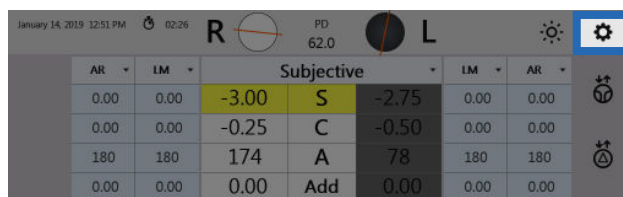

Figure IS-09, Settings
1. Tap **Settings**, located at the top right of the Controller screen. Refer to Figure IS-09.